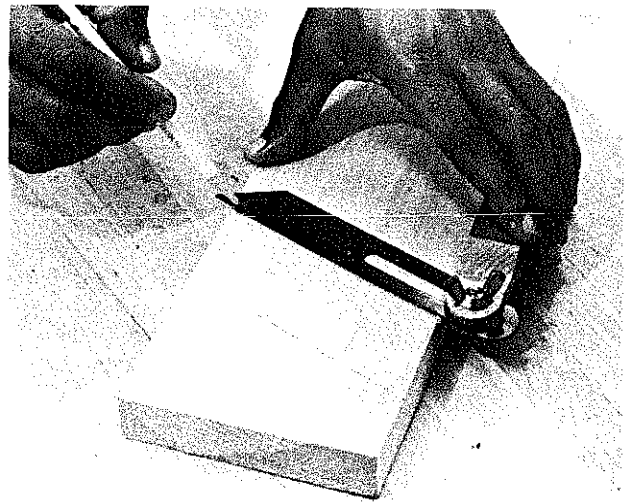

Fig. 4-34 Transferring an angle to a board
5. To transfer the angle to a board, the sliding T bevel handle is placed against the edge of the board with the blade across the surface (figure 4-34). Mark a line along the edge of the blade.